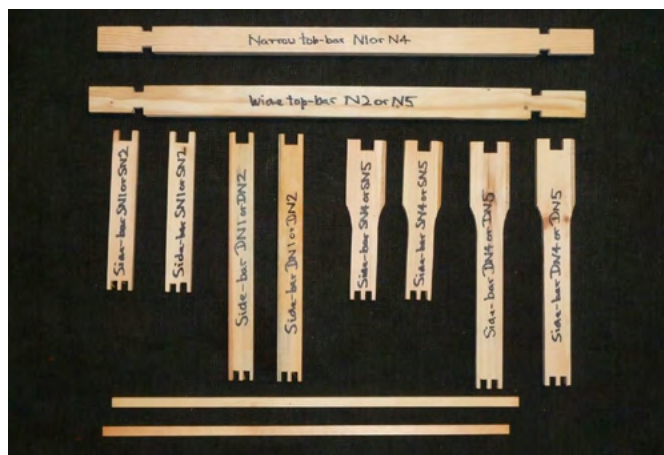

Figure 3:
For the Modified National and WBC hives, Standard British (BS) frames are sold in a range of types using a code name. When purchasing equipment it helps to understand what these codes mean. The first element of the code is the depth of the frame (to fit shallow or deep boxes) and **S** = shallow and **D** = deep. This followed by the letter **N** which stands for National and this is followed by the numbers 1-5 (except that number 3, with a slot in the top-bar, is no longer produced). See **Figure 3**.